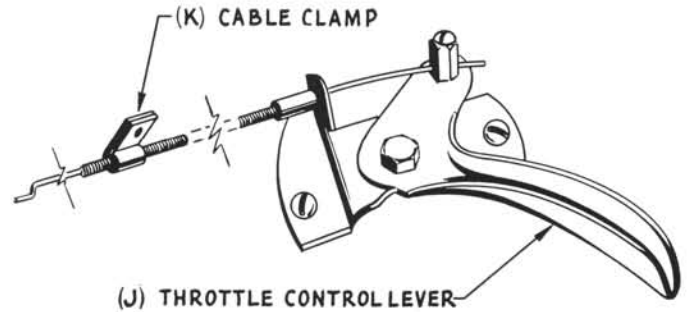

Figure 7
Move throttle control lever (J) to an open position as shown in figure 7. Cable clamp (K) remains loose until the end of cable is inserted in disc (D).